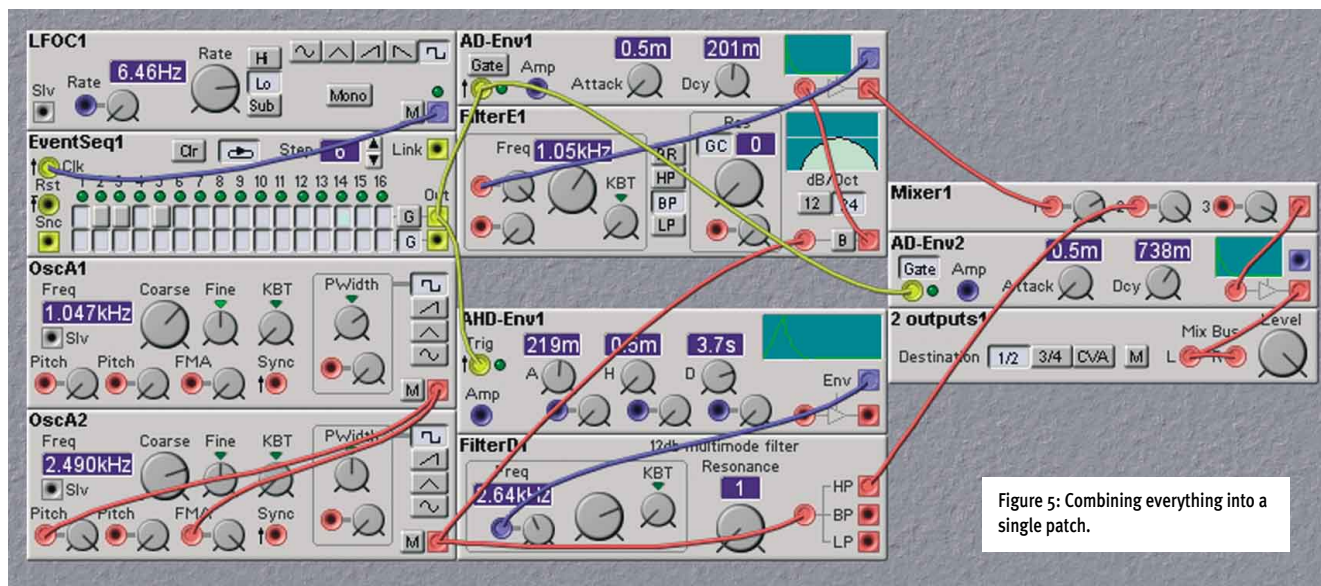
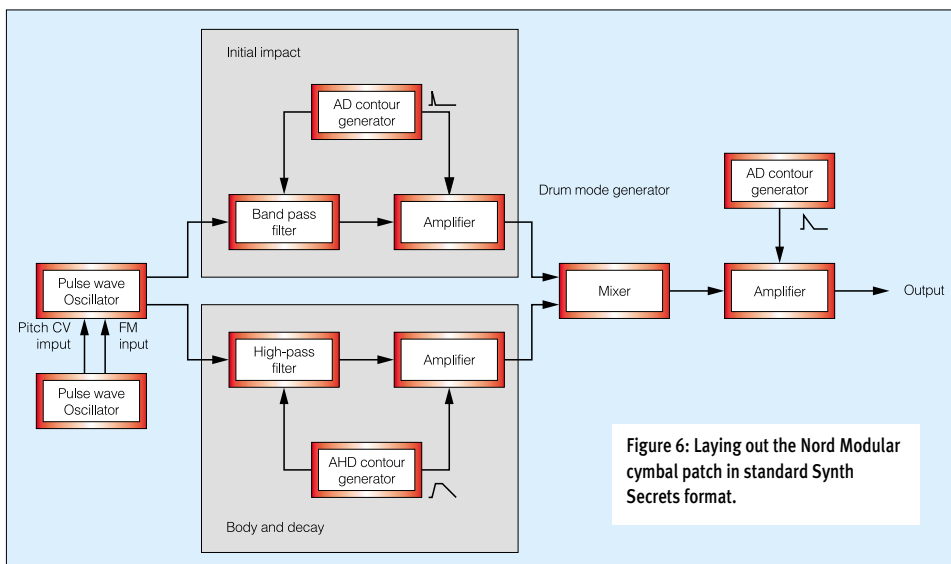

Figure 5: Combining everything into a single patch.
Figure 6: Laying out the Nord Modular cymbal patch in standard Synth Secrets format.
Having created the two signal paths, I have combined them as shown in Figure 5 on the next page, using the 'Mixer1' module to mix the elements in suitable proportions. You will note that I have given the tail a greater amplitude than the 'ping', and again this is simply because it sounds correct.
Figure 6 (below) now shows the sound-generating modules from Figure 5, but drawn in standard Synth Secrets format, so that you can apply this patch yourself to something other than the Nord Modular. You can see the dual signal paths, with the upper path creating the 'ping', and the lower the extended tail of the sound.
But what if you don't own a big modular synth — analogue or digital? Does this mean that cymbal sounds are forever beyond your reach? Next month, we'll look at Figure 6 in closer detail and, as we have done before, see whether we can simplify the patch sufficiently to create convincing cymbal sounds on low-cost analogue synths. Until then... SOS
- sequencer clocked by an LFO. You can see these in the upper-left corner of Figure 5. If you look closely, you can see that I have programmed a six-beat sequence with the cymbal triggered every first, fourth and sixth beat. This produces the classic 'tscchhhh t-t tscchhhh t-t tscchhhh' so beloved of jazz and swing drummers, which is a perfect test for a ride-cymbal patch.